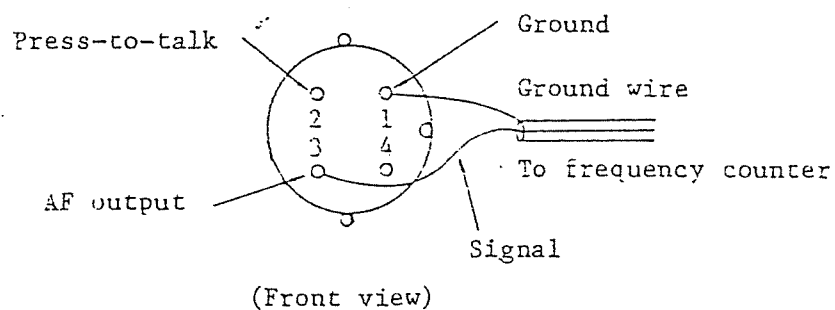
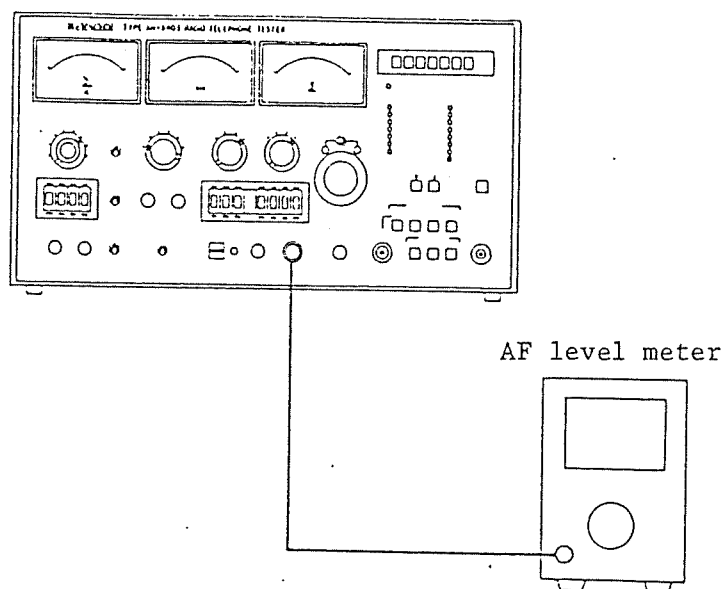
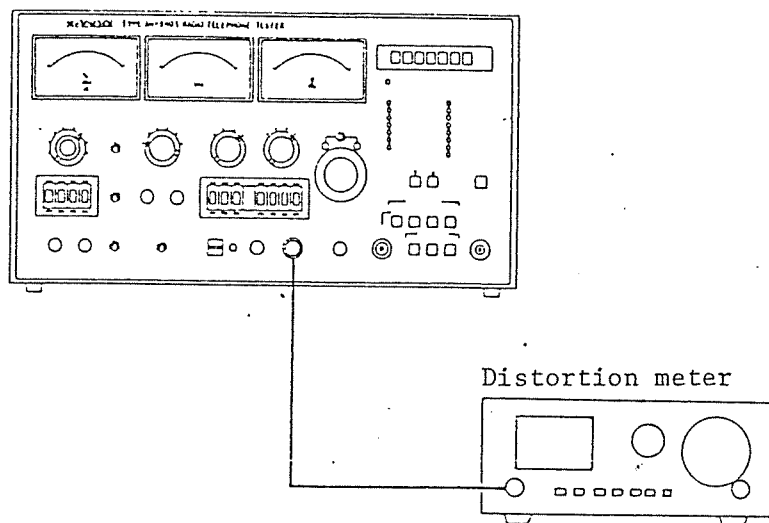

Fig. 3-15 Mike connector connections
Fig. 3-16 Low frequency output level test
Fig. 3-17 Output distortion test
NOTE : The mike connector terminal layout is shown in Fig. 3-15.
- (1) Connect an AF level meter terminated in  $600 \Omega$  to the AF output terminal of the [TO TRANSCEIVER] mike connector of this apparatus as shown in Fig. 3-16. For the mike connector terminal layout, see Fig. 3-15.
- (2) Set the controls of this apparatus as follows:
- (1) Connect a distortion meter to the AF output terminal of the [TO TRANSCEIVER] mike connector of this apparatus as shown in Fig. 3-17. The terminal layout of the mike connector is as shown in Fig. 3-15. Set the input impedance of the distortion meter to 600  $\Omega$ .